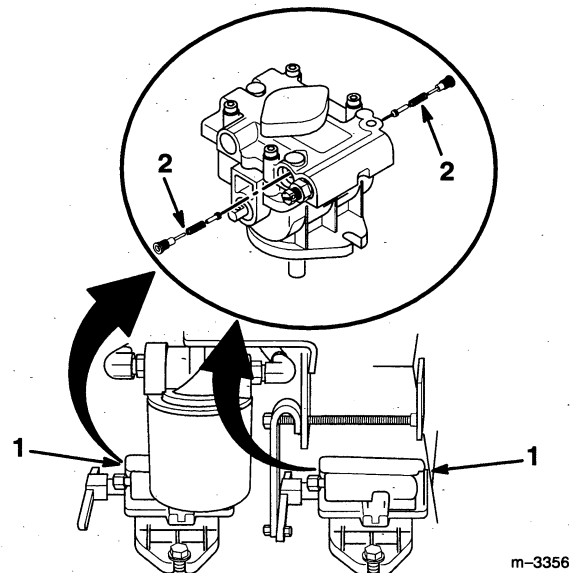

Figure 4
- Thread new poppet check valves into hydraulic pumps (Fig. 4).